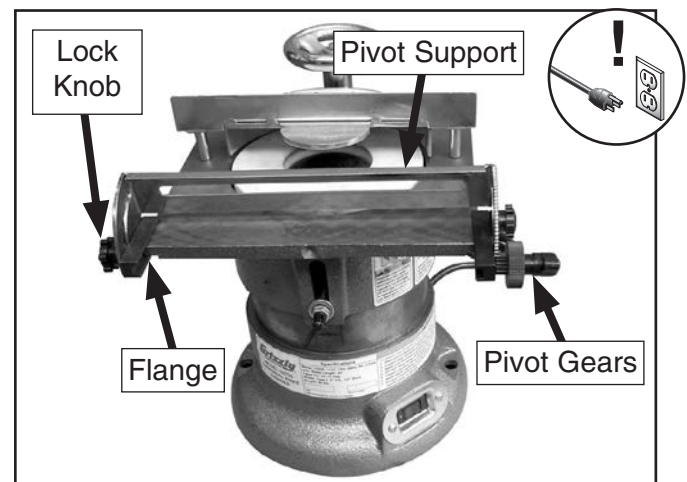

Figure 14. Pivot support installed.
2. Loosen the four lock knobs on the sides of the pivot support, then slide the support flanges onto the table, as shown in **Figure 14**.